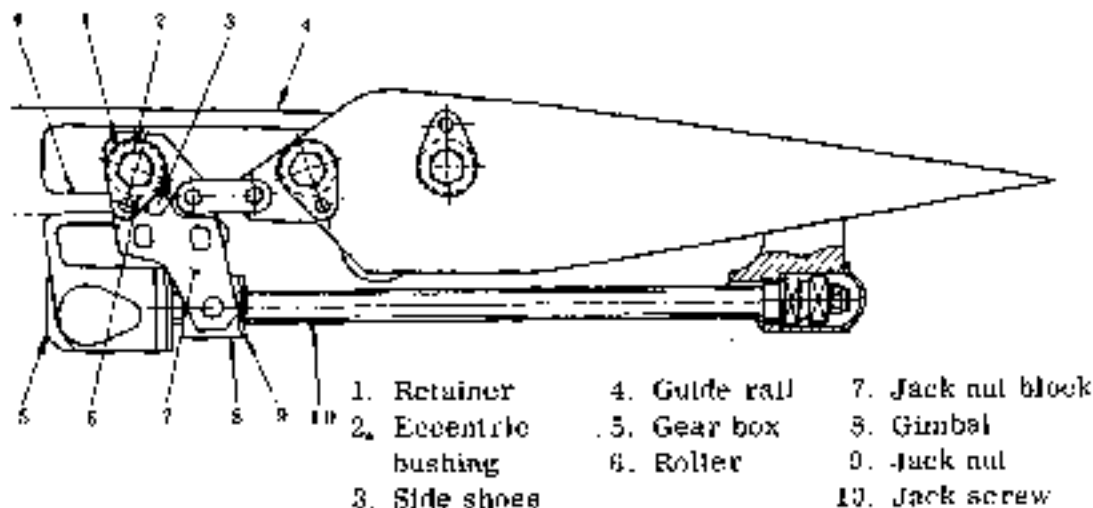

Fig. 5-88 Adjustment of jack nut block
9.3.2 ADJUSTMENT OF NUT SUPPORT OF FLAP ACTUATOR BOX (See Fig. 5-88)